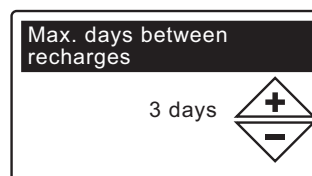

FIG. 18
- 7. MAX. DAYS BETWEEN RECHARGES** Press the UP (▲) or DOWN (▼) buttons to set the number of days between automatic recharges (See Figure 18) The feature can be set from 1 to 99 days.